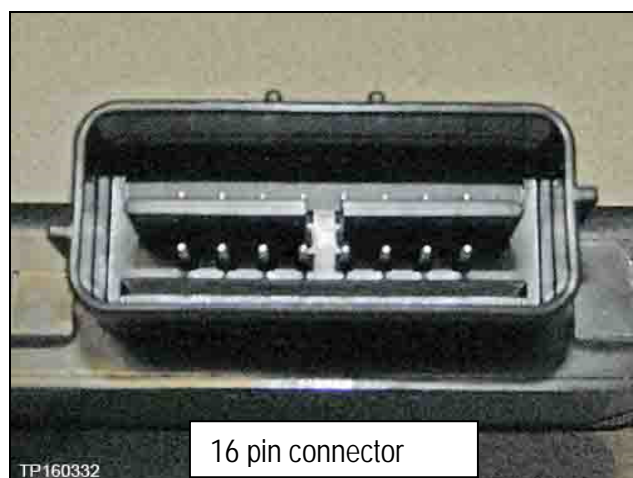

Figure B1
- (1) Confirm that the number of pins of the new part are the same as the original (see Figures B1 and B2 below).